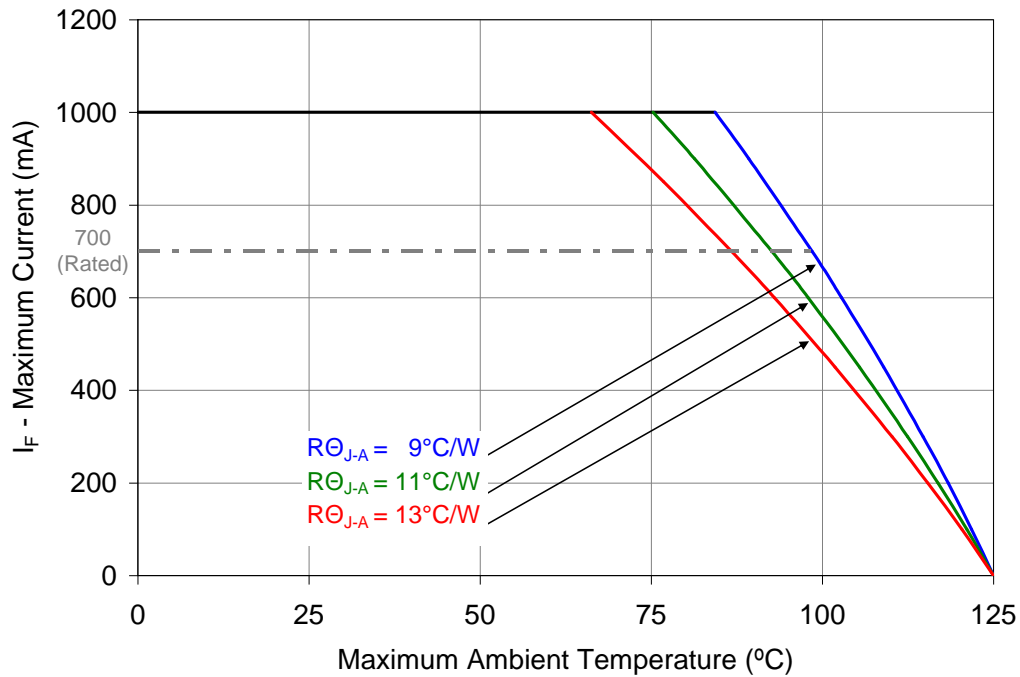

Figure 10: Maximum forward current vs. ambient temperature based on  $T_{j(\text{MAX})} = 125^\circ\text{C}$ .
- Maximum DC forward current is determined by the overall thermal resistance and ambient temperature. Follow the curves in Figure 10 for current derating.
Notes for Figure 10: